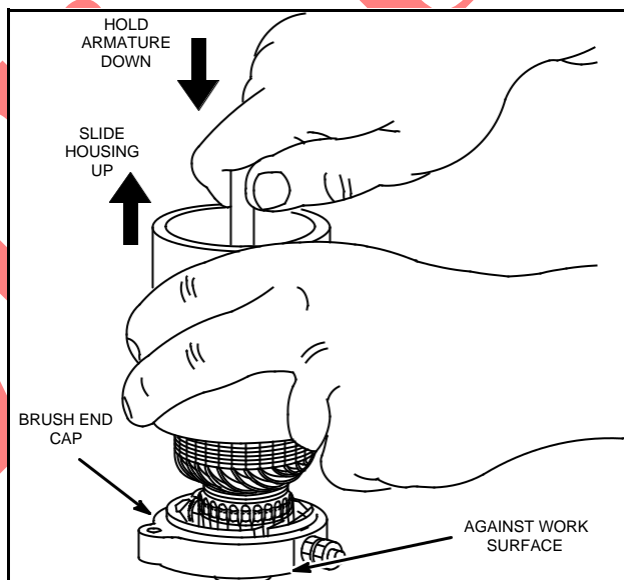

Fig. 700 – REMOVING MOTOR HOUSING
4. Hold the armature and commutator end cap against a work surface while sliding housing off the armature. This allows the armature to remain in the end cap for inspection of brush contact to armature, Fig. 700.